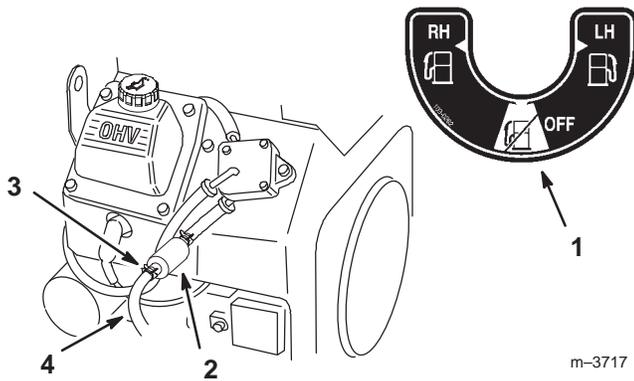

Figure 40
5. Install a new filter and move the hose clamps close to the filter (Fig. 40).
2. Close fuel shut-off valve (Fig. 40).
3. Loosen the hose clamp at the fuel filter and slide it up the fuel line away from the fuel filter (Fig. 40).
4. Pull the fuel line off fuel filter (Fig. 40). Open fuel shut-off valve and allow gasoline to drain into a gas can or drain pan.
5. Install the fuel line onto the fuel filter. Slide the hose clamp close to the fuel filter to secure the fuel line (Fig. 40).